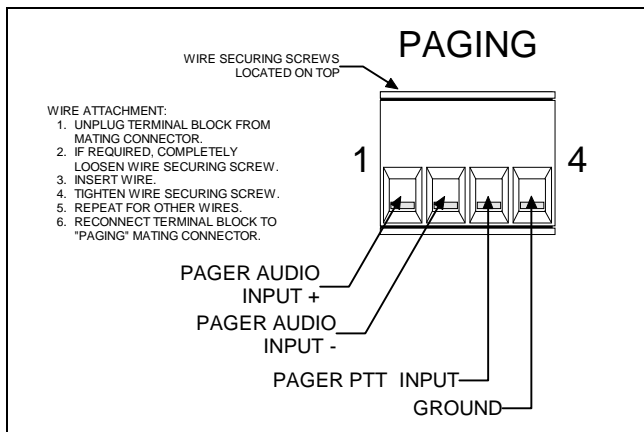

Figure 9 – Pager Inputs At Enhanced Audio Enclosure
Connections for an external paging tone encoder are located on a second removable screw-terminal terminal block on Enhanced Audio Enclosure's rear panel. A 600-ohm balanced line audio input and a PTT (page enable) input are included. As shown in Figure 9, this terminal block is labeled "PAGING".
- ❑ Connect the pager to the terminal block in accordance with the manufacturer's instructions, Figure 9 and Table 25. The audio terminals are isolated from ground. See the specifications page for audio signal input level specifications. If required, audio input level adjustment can be accomplished by changing the respective digital pot's setting using the Dispatch Manager's Digital Pot Adjustment dialog box; see the procedure on page 7 of this manual for additional details.